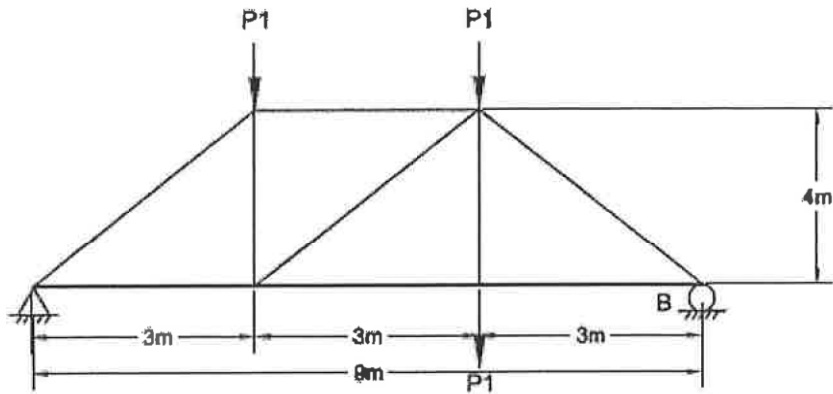
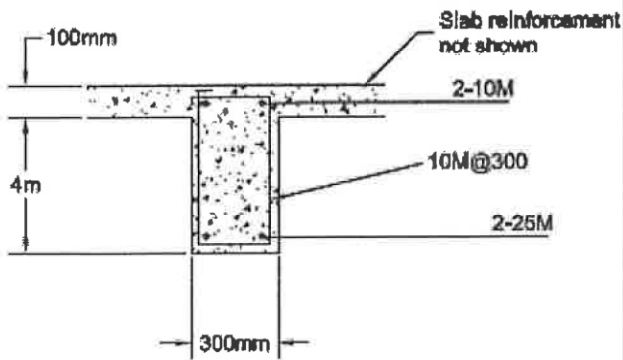

FIGURE A3
FIGURE B1
- A3 (20)
- B1 (20)
- B2 (20)
- B3 (20)
- C1 (20)
**Part A (Do TWO (2) of three (3) questions)**
- A1. A column is made up of two (2) back to back C310x37. There is a 25mm gap between the sections which is filled at 500mm spacings with a spacer plate which is then welded to each of the channels. If the column is to be 6m high (only supported at the top and bottom) what is the maximum factored axial load that can be carried assuming both ends are pinned?
- A3. Referring to Figure A3. The truss shown is made up of only two (2) member sizes; specifically one (1) for all tension members and one (1) for all compression members. Using HSS Class C sections (350W steel) determine what size member best works for the tension members and which member size works best for the compression.
**Part B (Do TWO (2) of three (3) questions)**
- B1. The Tee section shown in Figure B1 is part of an interior one-way simply supported system determine the ultimate moment and shear resistance of the section. Assuming the beams are spaced at 2m o.c., the span is 5m long, and is made of 30MPa concrete.